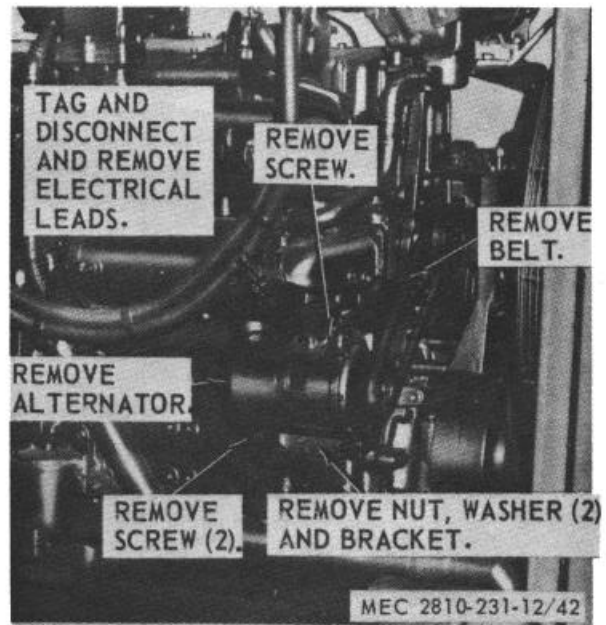

Figure 42. Engine alternator, removal and installation.
a. *Removal.* Remove alternator, assembly as instructed in figure 42.
- (1) Clean the exterior with a cloth dampened in an approved cleaning solvent and dry thoroughly.
- (2) Inspect for cracks, breaks or other damage.
- (3) Replace a defective or damaged alternator.
- (1) Install alternator assembly as instructed in figure 42.
- (2) Adjust V-belt drive tension (par. 39).